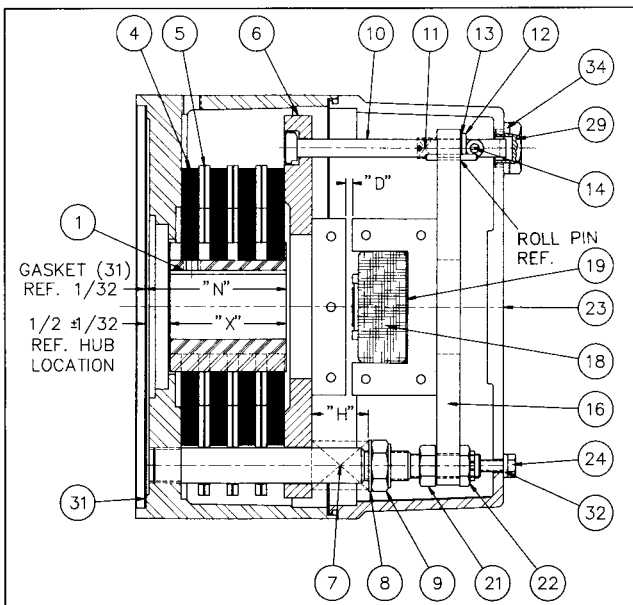

Figure 5
1. Place rotating disc hub (1), with key, onto motor shaft with part number facing away from motor to dimension shown in Fig. 5 ($1/2 \pm 1/32$). Tighten both set screws to 10 - 12 lbs. ft. torque.
Refer to Fig. 5.
When assembling manual release mechanism (Fig. 5), add only enough shim washers (13) to obtain proper release action. Too many shim washers will prevent automatic reset when electrical power is applied. Too few washers will prevent the motor shaft from turning freely. Replace stop screws (14). Wind each torsion spring (11) approximately $\frac{1}{4}$ turn and hook spring loop over pin.
Refer to Figs. 5, 6, 9 and 10.